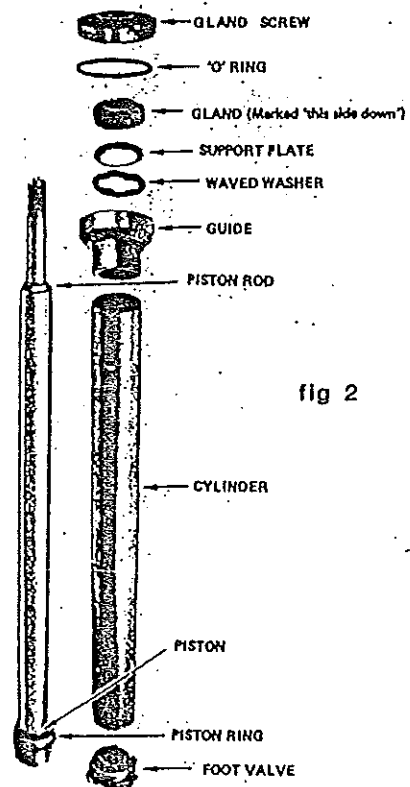

fig 2
Next, two exit holes for the wires need to be drilled at a slight angle to clear the solder tag on the switch (see Fig 2.)
2. A repair kit part No. HYL-4755 is available from Sydney parts priced at \$36.98 plus 20% sales tax each, and anyone with a small amount of mechanical skill following the instructions as laid down in the service manual should be able to repair the shock absorber section (Fig. 2) without a great deal of trouble.
All those parts shown in figure 2 on the previous page are replaced by one simple replacement cartrige by following the procedure set out below.
Now remove all those items shown in figure 2 drip in the GTC 600 cartridge and tighten the lock nut securely. Reassemble and install back on the car in the reverse order of disassemble and removal. Consult your work manual for the basic removal and refit procedure if you are in any doubt.